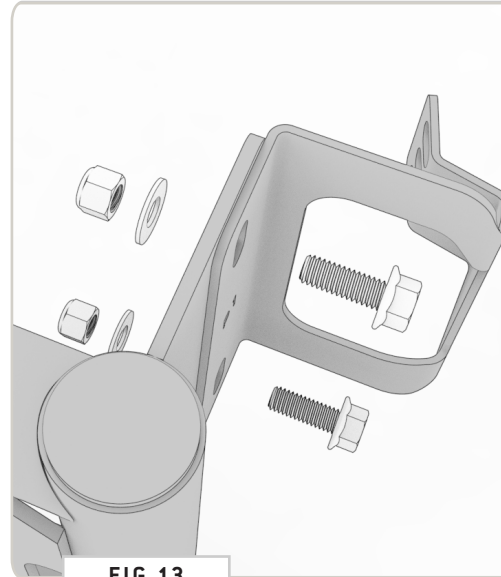
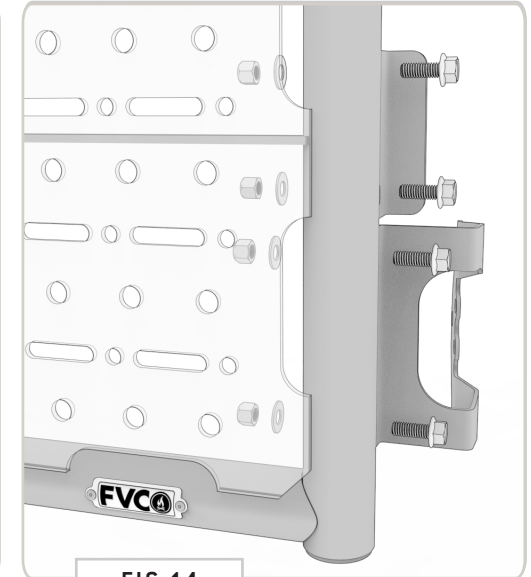

FIG 13
FIG 14
4.1 Hinge Mounts: With assistance, raise the Platform up to the door and insert (2ea) 3/8" Flanged Hex Head Screws through the Upper (FIG 13) and Lower (FIG 14) Hinge Brackets. Loosely thread on (2ea) 3/8" Flat Washers and Nylon Locknuts.
NOTE - Make sure that the "fins" of the Platform are on the inside of the Hinge Brackets as shown in FIG 13 and 14.
4.3 Lower Frame Brace: Use a 9/16" Wrench and Socket to attach the lower frame brace tightly to the door using (2ea) 3/8" Flanged Hex Head Screws and (2ea) 3/8" Flat Washers and Nylon Locknuts (FIG 14).